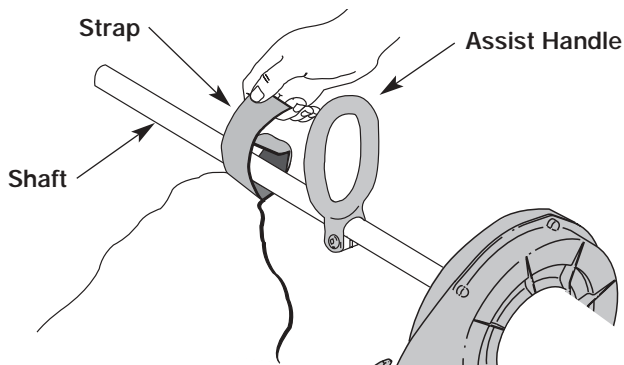

Fig. 2
4. Fasten the strap to the shaft above the assist handle, located on the powerhead (Fig. 2).